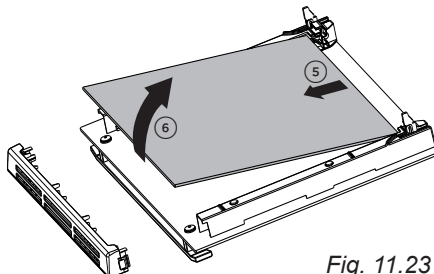

Fig. 11.23
- Gently lift and pull out the middle pane of glass by releasing it from the bottom retaining notches (fig. 11.23).